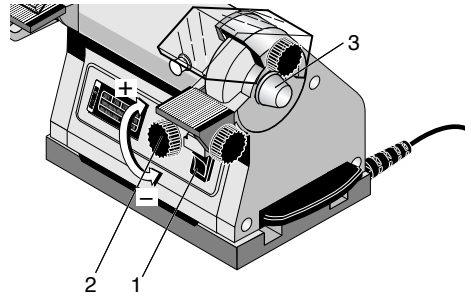

Fig. 4
5. Switch the machine on with the switch 1 (Fig. 4).